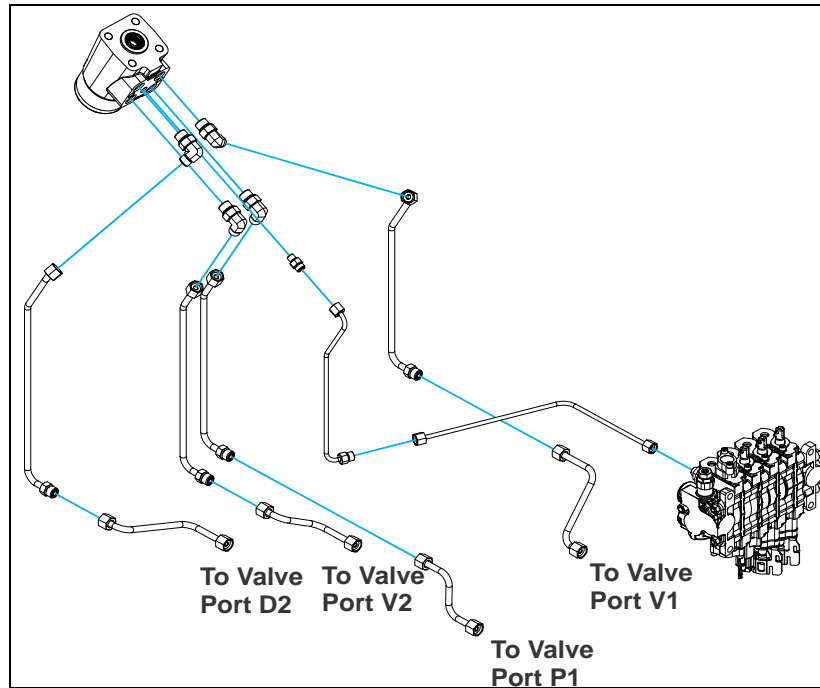

Figure 3-30: Orbital Steering Control Unit Assembly
6. If the unit is being replaced, or the fittings are defective, notice the placement angle of the hose fittings then remove them. See Figure 3-30.